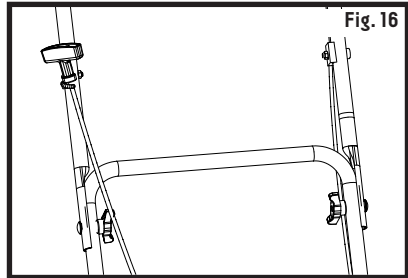

Fig. 16
4. Once the engine is running, put the starter rope into the rope guide (see Fig. 16).